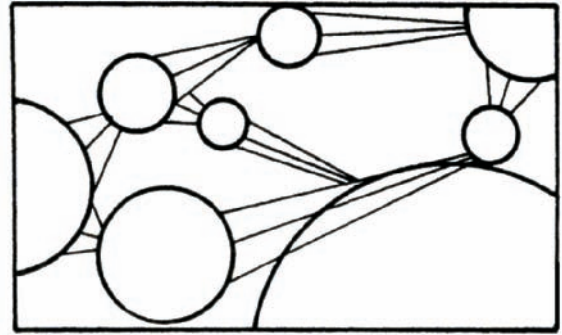

Figure 7.5.
1. Draw preliminary sketches as in Level One. In addition to emphasizing interesting positive and negative space, try to create a sense of visual movement across, up, down, in, out, around, and so forth. This sense of movement can be intensified by exaggerating the components of the models (e.g., varying the sizes and shapes of their components). (See Figure 7.5.)